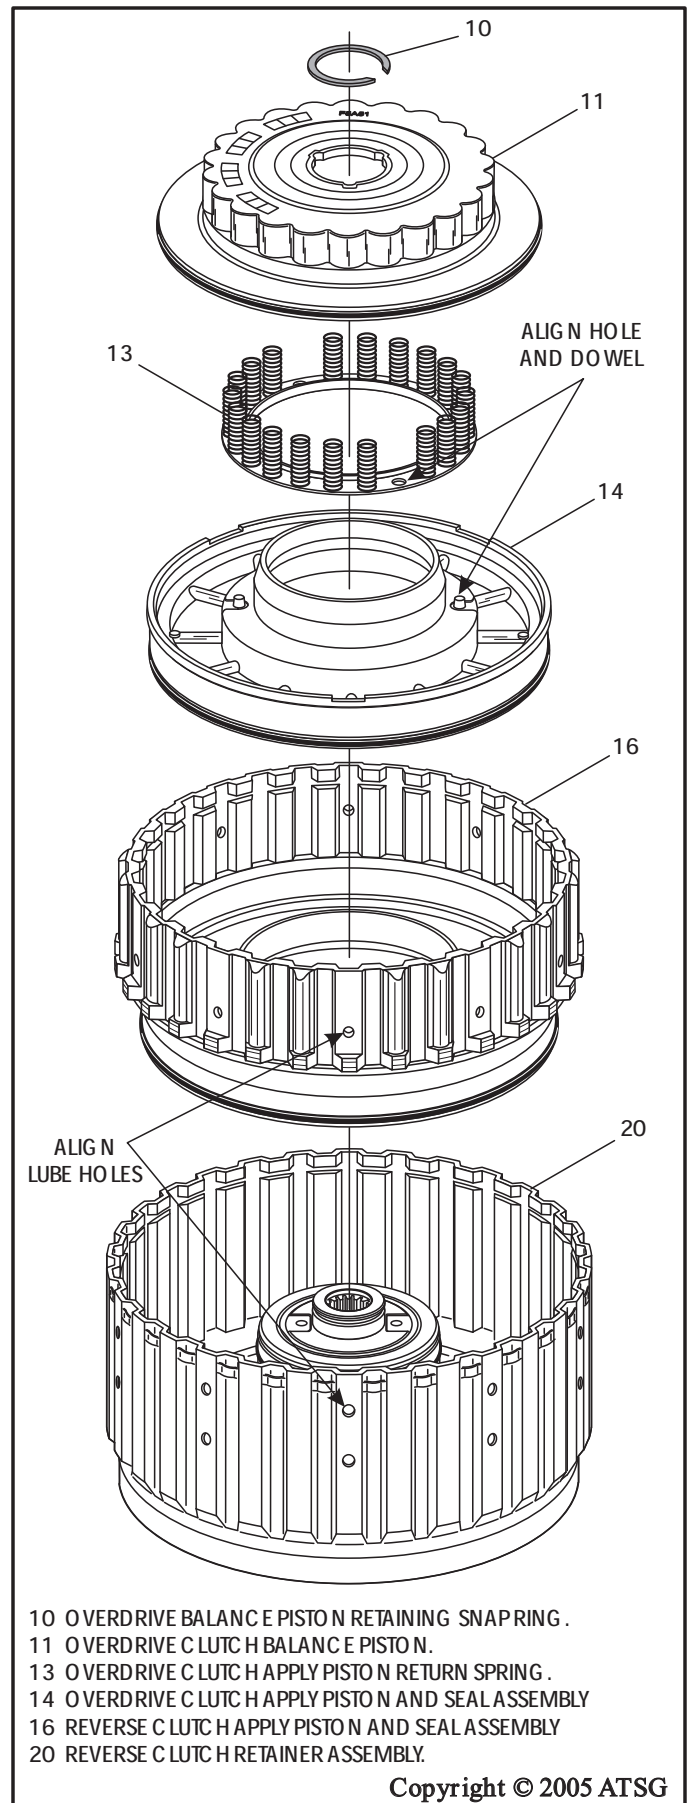

Figure 81
8. Install the completed reverse apply piston into the retainer, aligning the lube holes, as shown in Figure 81, and ensure that it is fully seated.
9. Install the completed overdrive apply piston into the reverse apply piston, as shown in Figure 81, and ensure that it is fully seated.
10. Install the overdrive clutch piston return spring as shown in Figure 81.
Note: Ensure alignment holes are seated over the dowels on piston (See Figure 81).
11. Install the overdrive clutch balance piston over return spring assembly, as shown in Figure 81, and lay snap ring on top of piston.